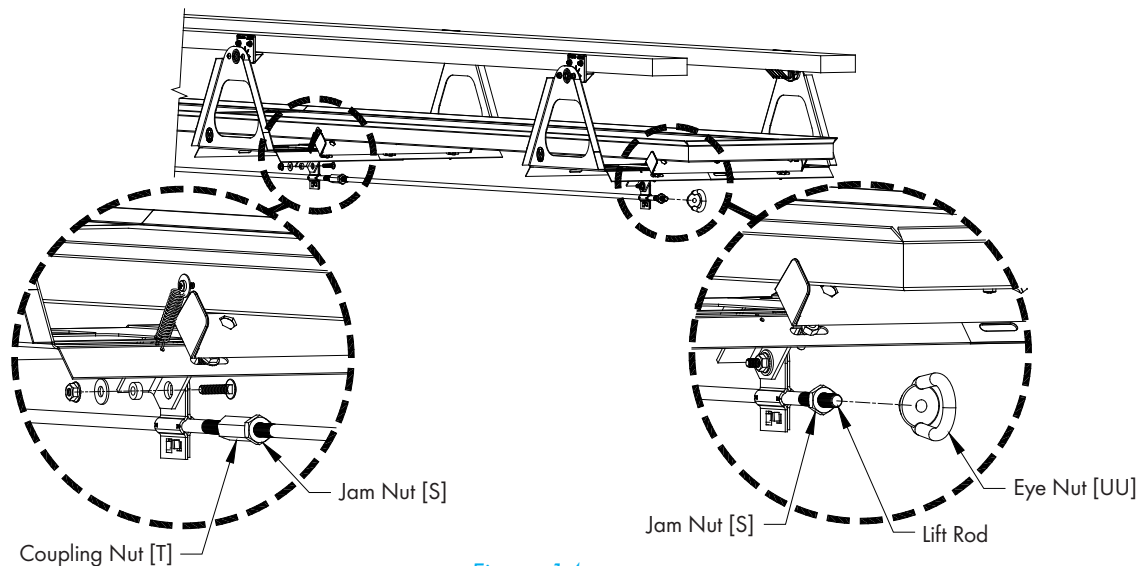

Figure 14
Install (1) KN1713 Jam Nut [S] on the far end of the Lift Rod about half way up threads, then install (1) KN1903 Coupling Nut [T] on end of the Lift Rod and run it up tight to the Jam Nut. Then Install next lift Rod into Coupling Nut [T] and fasten the Lift Rod to Pull Bracket on the 2nd Lift point as done in Step 1. See Figure 14.
See Figure 14.